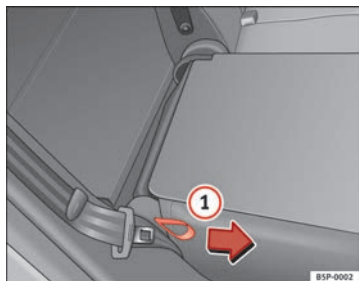

Fig. 98 Folding or opening the rear seat backrests
- Pull the loop on the side of the seat ⇒ Fig. 98 ①
In this position the backrest is locked. This is the reason why the loop located on the side of the seat must be pulled in the direction of the arrow to open the backrest ⇒ Fig. 98.